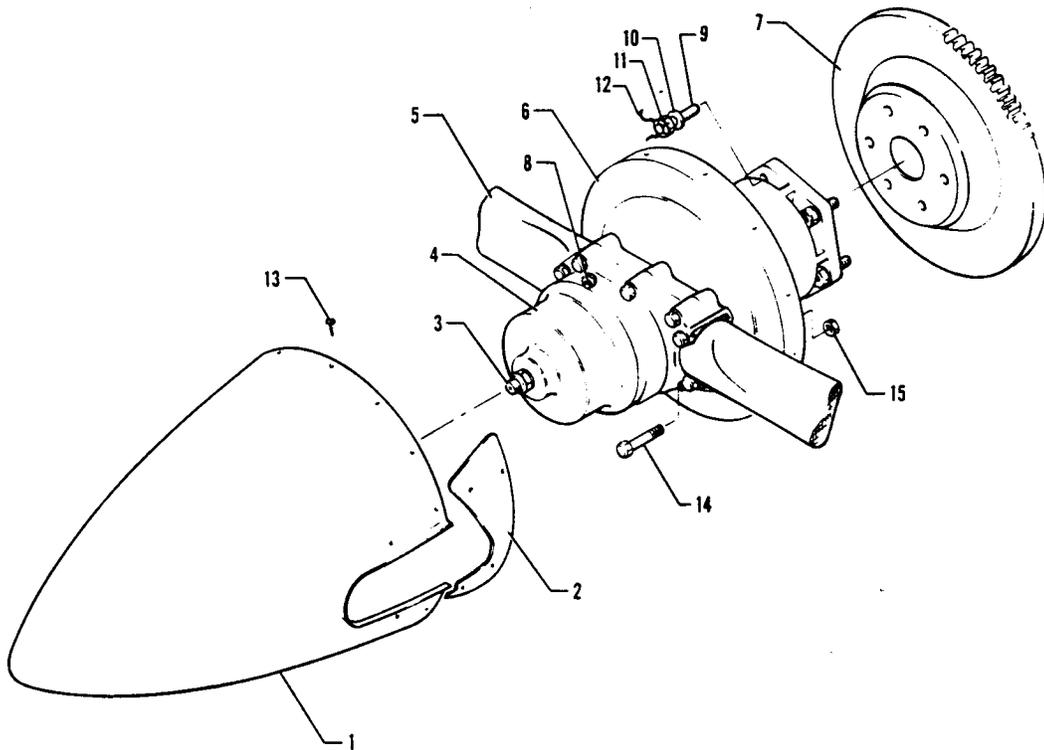

Figure 61-2. Propeller Installation
**REMOVAL OF PROPELLER** (figure 61-2)